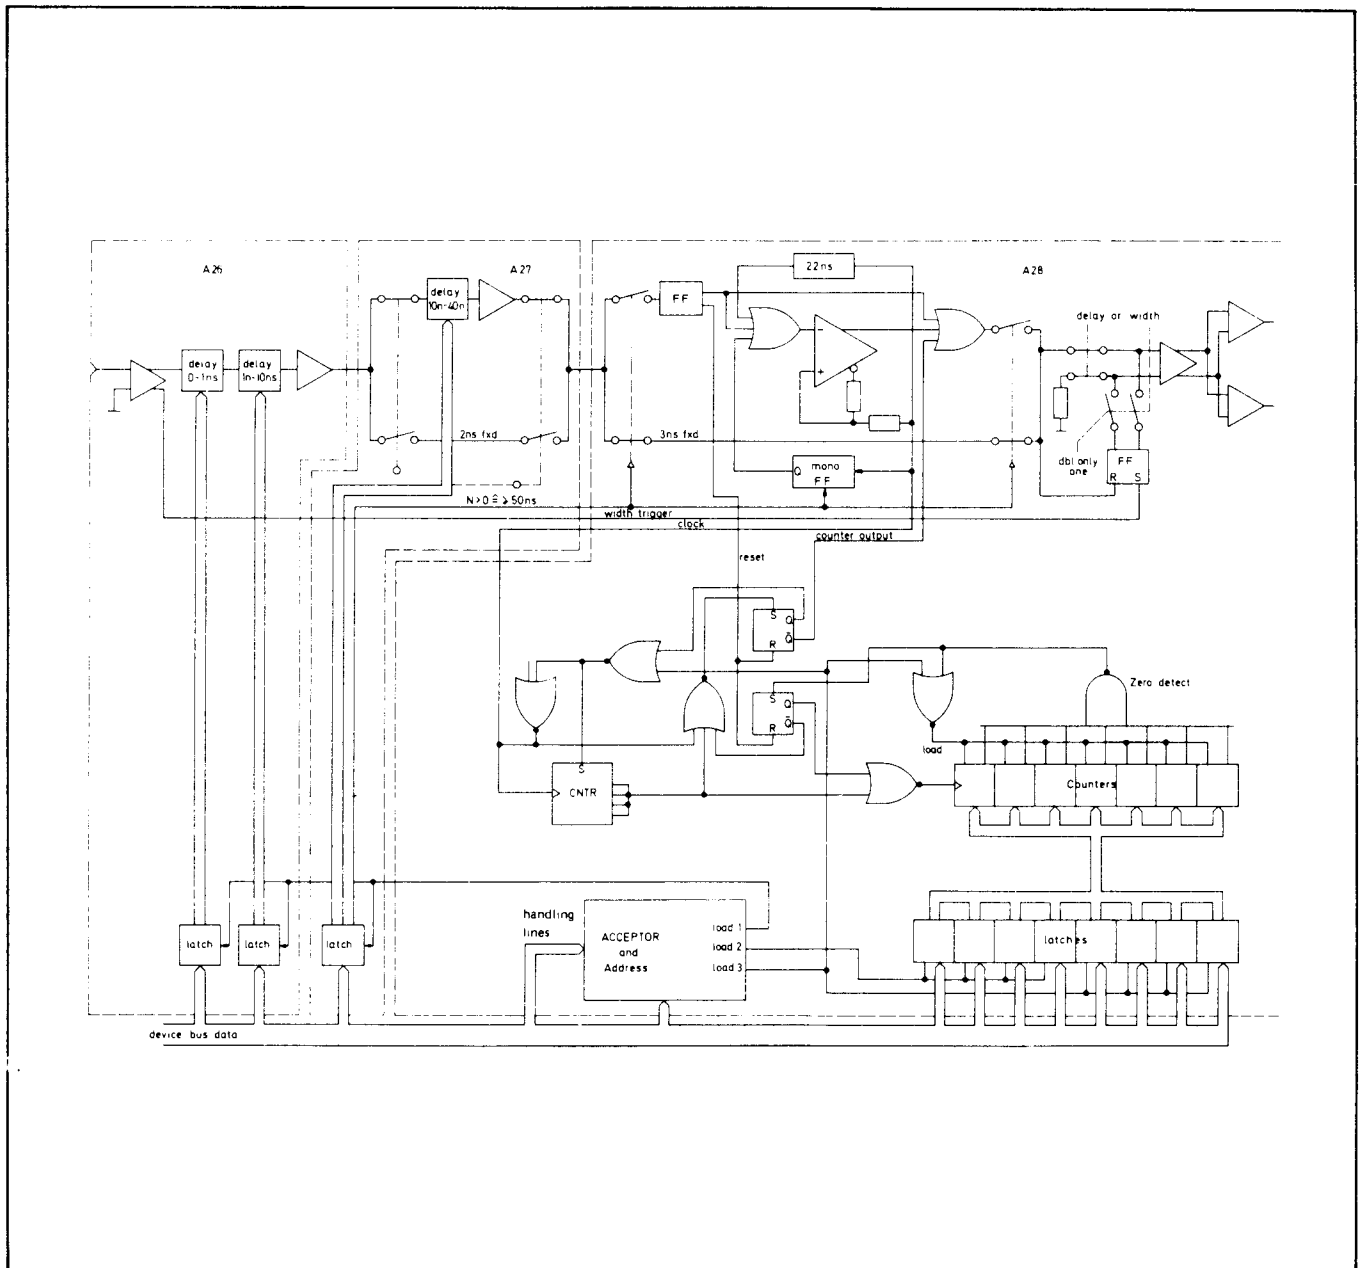

Figure 8–10–1. Simplified block diagram of time interval section.
A simplified diagram of the time interval section (TI) is shown in Figure 8–10–1. This section can provide a delay or width function depending on the position of the DELAY/WIDTH switch on A128.